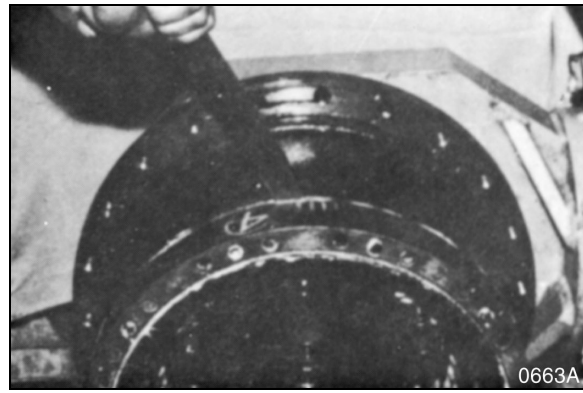

Figure 47
1. Use a marking pen or paint to mark reassembly index reference positions on the outer ring gear (4, ring gear A and hub, 1, Figure 13). Remove the ring gear (4) with a lever, as shown in Figure 47. Clean away all traces of any adhesive or sealant from the ring gear and hub. Remove the parallel pin (27) from the hub (1).